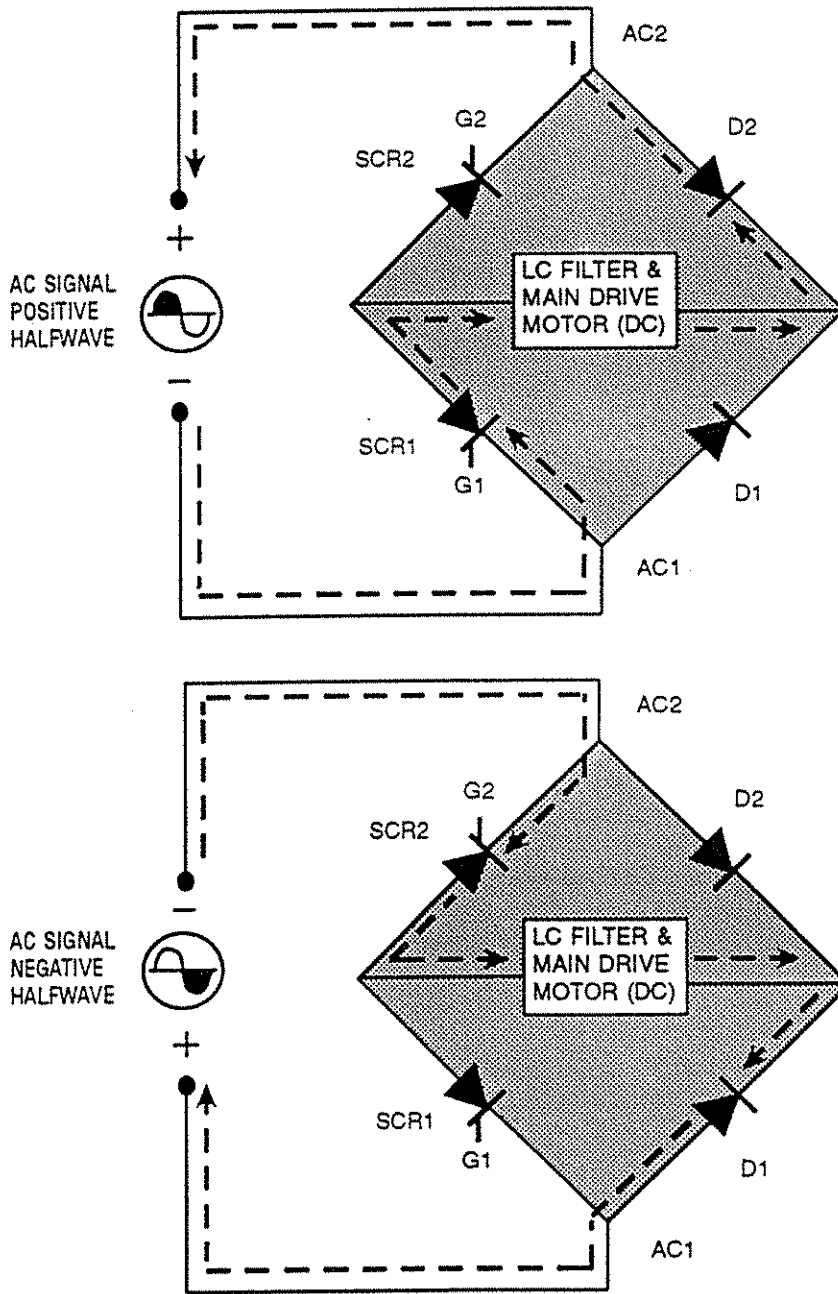

Figure 2-4: SCR Bridge Rectifier Operation
This DC voltage causes the main drive motor's shaft to turn which is translated into belt movement. Voltage (DC) strength and therefore motor/belt speed are related to the amount of AC signal conducted (passed) by the rectifier. The more AC signal conducted, the greater will be motor/belt speed. The rectifier circuit uses four diodes arranged in a bridge configuration. See Figure 2-4.
- a. The AC signal is applied (positive halfwave). Forward biasing is present on diodes SCR1 and D2. See figure 2-4.
- c. Gating current is applied (microprocessor controlled) to G1, enabling SCR1. See Figure 2-4.
- d. Diodes SCR1 and D2 conduct the remainder of the positive halfwave. The path of current flow (one direction) is through SCR1, LC filter, main motor (DC), and D2. See Figure 2-4.
- a. The AC signal is applied (negative halfwave). Forward biasing is present on diodes SCR2 and D1. See Figure 2-4.
- c. Gating current is applied (microprocessor controlled) to G2, enabling SCR2. See Figure 2-4.
- d. Diodes SCR2 and D1 conduct the remainder of the negative halfwave. The path of current flow (one direction) is through SCR2, LC filter, main motor (DC), and D1. See Figure 2-4.